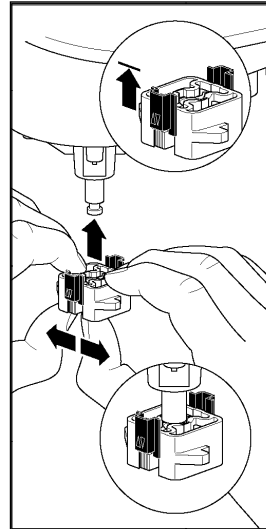

Fig. 1
2. Attach Valve Coupling (D) to Actuator Plunger (H). This is done by pushing the bottom of the coupling apart with your thumbs while pressing it on to the actuator plunger. (See Figure 1).
3. Slide the Bracket (E) over the Valve Coupling and the 4 standoffs on the actuator base.
4. Attach the Bracket to the Actuator (A) using 4 Screws (B).
5. Attach Stroke Indicators (G) above and below the valve coupling.
7. Use the U-bolt (F) and secure the valve into the bracket, tighten using a 10 mm wrench. (U-bolt will fit into the groove in the collar, or the valve neck in the case of UNV-003).
8. Lower plunger (H) using manual override until stem adaptor (I) meets valve coupling. When connected, the valve stem adaptor will be captured by the valve coupling.
9. Slide the coupling lock (C) down in to its locked position.
10. Move Stroke Indicators (G) so that they are directly above and below the valve coupling. They will be automatically repositioned to the maximum stroke when power is applied to the actuator.